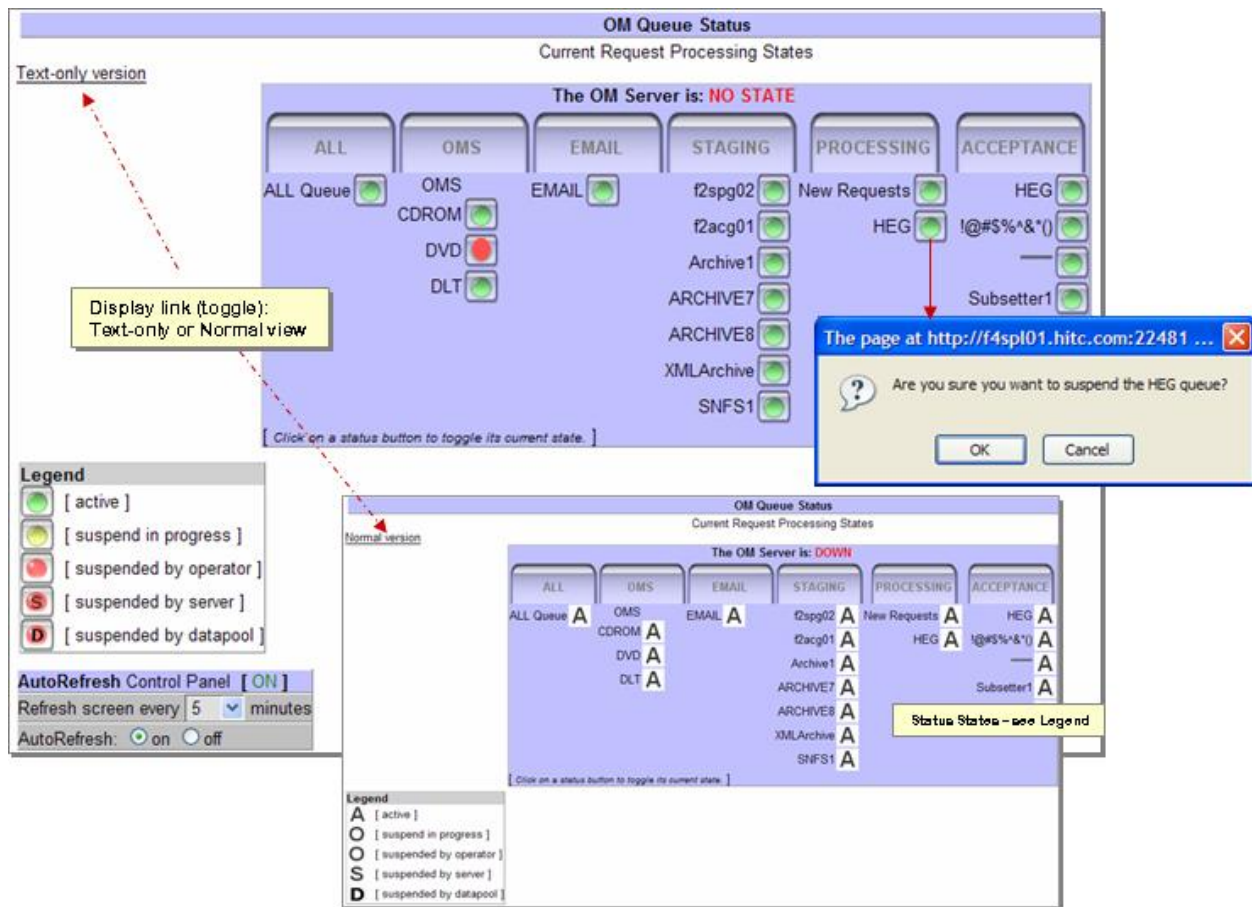

Figure 15.9-1. OM Queue Status Page
The **OM Queue Status** page (Figure 15.9-1) provides the full-capability operator with a means to monitor and modify the current status of request queues for all media as well as the request queues for OMS, e-mail, staging, and HEG. (The limited-capability operator can monitor but cannot change the status of queues.) In addition, the **OM Queue Status** page allows both full-capability and limited-capability Operators to determine the status (“up” or “down”) of the Order Manager Server.
- 2 Click **OM Queue Status** submenu option to display its page (Figure 15.9-1).
- **Red (S)** – indicates that the queue was automatically suspended by OM Server. This is a non-Operator controlled event.
- **Red (D)** – indicates that the queue has been suspended by Datapool.
- A confirmation dialog box displays asking, **Are you sure you want to <state> the <queue type> queue?** (Figure 15.9-1)